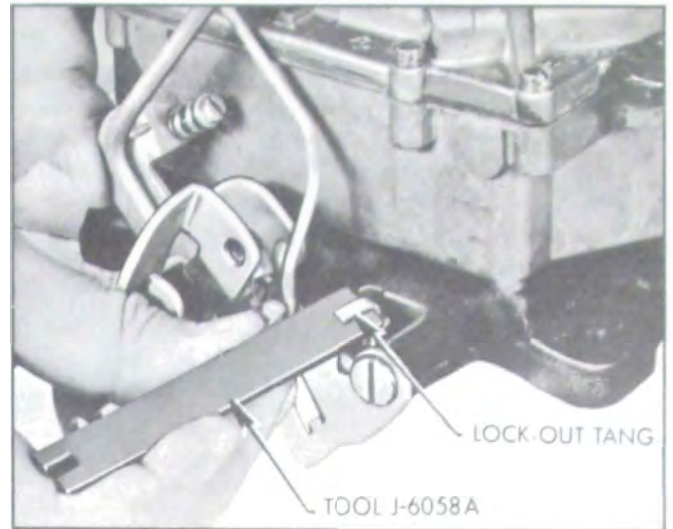

Figure 3-57—Adjusting Secondary Lock-Out
6. If clearance between tang and lock-out step is not correct, bend tang as required to obtain this clearance, using Tool J-6058A. See Figure 3-57.